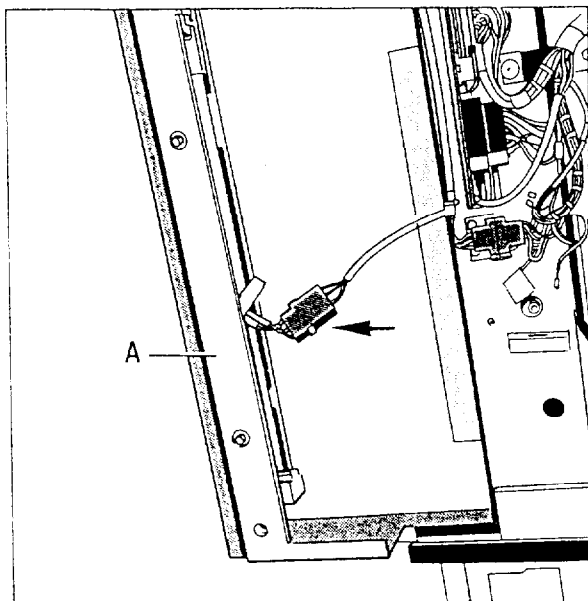

Fig.3
- Pull the panelling A towards the front until the plug connection (↗/Fig. 3) of the emergency stop button and the cassette transport switch become accessible.
- Remove the plug connection N16.X1 (↗/Fig. 3, emergency stop and cassette unloading function) and short the safety circuit via PIN 1 and PIN 2.
- Make the plug connection N16.X1 (↗/Fig. 3) to the emergency stop button.